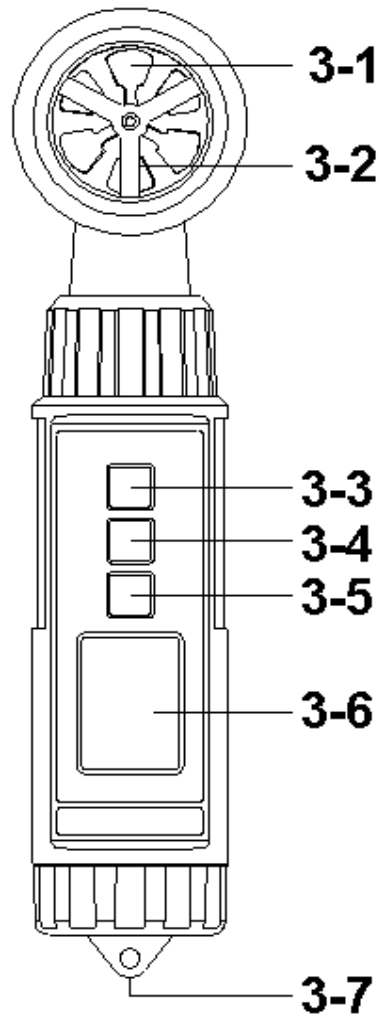

Fig. 1
1) Turn on the meter by pressing the " Power Button " ( 3-3, Fig. 1 ) momentarily.
*\* Pressing the " Power Button " ( 3-3, Fig. 1 ) momentarily again will turn off the meter.*
Pressing the " Mode Button " ( 3-5, Fig. 1 ) continuously at least 2 seconds, both upper and the lower display value will be flashed, use the " ▲ Button " ( 3-3, Fig. 1 ) or " ▼ Button " ( 3-5, Fig. 1 ) to select the one kind mode ( function ) of above a, b, c, d, e, f, then press " ◀ Button " ( 3-4, Fig. 1 ) to entry the selecting mode.
2) Pressing the " Unit Button " ( 3-4, Fig. 1 ) continuously at least 2 seconds, both upper and the lower unit will be flashed, use the " ▲ Button " ( 3-3, Fig. 1 ) to select the upper display's unit, use the " ▼ Button " ( 3-5, Fig. 1 ) to select the lower display's unit, then press " ◀ Button " ( 3-4, Fig. 1 ) to entry the selecting unit.
- 1) Turn on the meter by pressing the " Power Button " ( 3-3, Fig. 1 ) momentarily.
( 3-3, Fig. 1 ) momentarily.
- \* During the measurement, press the " Hold Button " ( 3-4, Fig. 1 ) momentarily to hold the measured value. The LCD will show a " HOLD " symbol.
- 1) The data record function records the maximum and minimum readings. Press the " REC Button " ( 3-5, Fig. 1 ) momentarily to start the Data Record function, shows " REC " on the display.
- a) Press the " REC Button " ( 3-5, Fig. 1 ) momentarily, the " REC MAX " symbol along with the maximum value will appear on the display.
- b) Press the " REC Button " ( 3-5, Fig. 1 ) momentarily again, the " REC MIN " symbol along with the minimum value will appear on the display.
*\* When display shows " REC MAX " or " REC MIN ", press the " Hold Button " ( 3-4, Fig. 1 ) momentarily will delete the max. ( min. ) value, the display will show the " REC. " only and execute the memory function continuously.*
- 2) To de-activate this feature, Select the memory record function during measurement, by pressing the " REC Button " ( 3-5, Fig. 1 ).
- \* To change the batteries, open ( rotate clockwise direction ) the " Battery Cover " ( 3-7, Fig. 1 ).
- \* Make sure the " Battery cover " (3-7, Fig 1) is secured after changing the batteries.